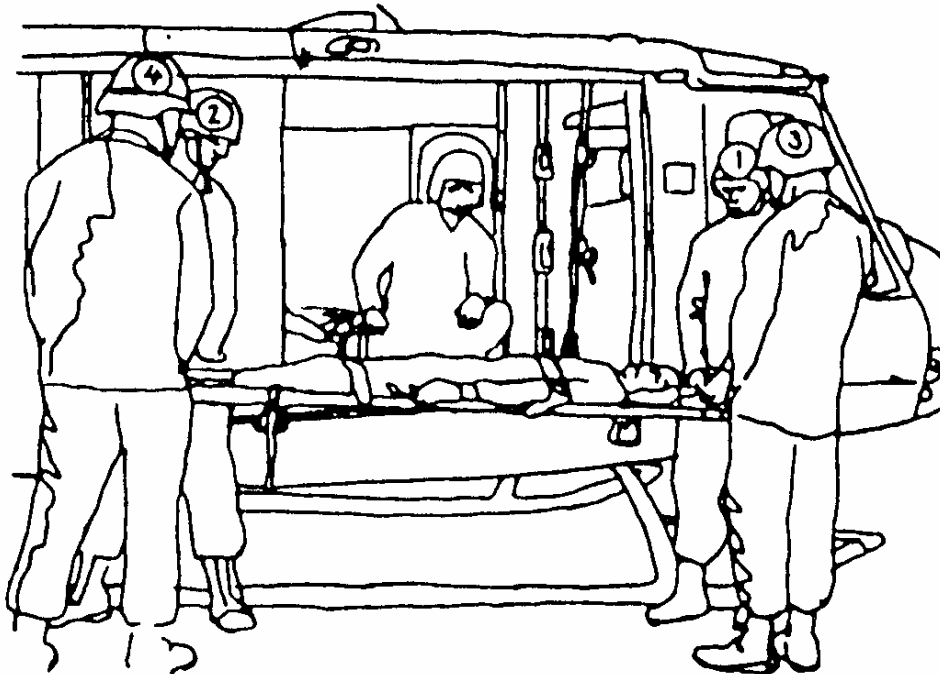

Figure 5-5. Preparing to load the first casualty (right side) into an Iroquois air ambulance with crewman ready to assist.
- (1) Carry the litter casualty to helicopter using a four-man carry.
- (2) Turn so the casualty is even and parallel to the cargo compartment of the helicopter and his head is toward the front of the helicopter (figure 5-5).